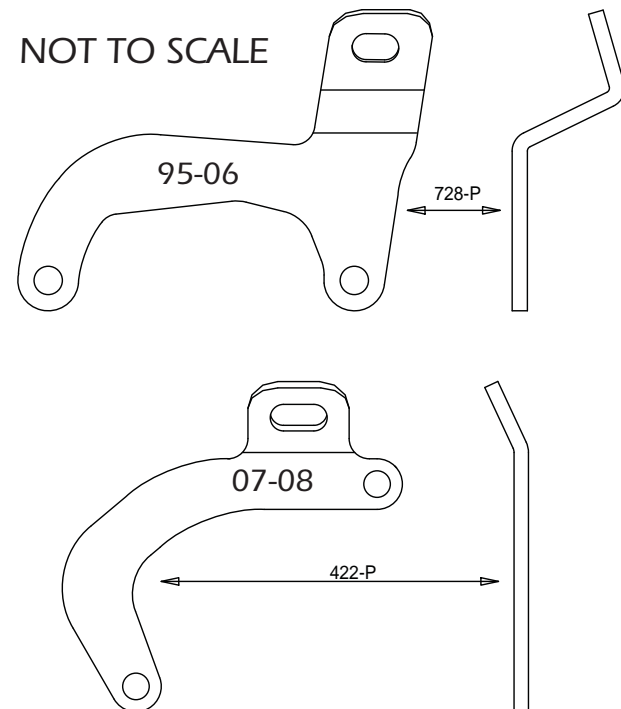
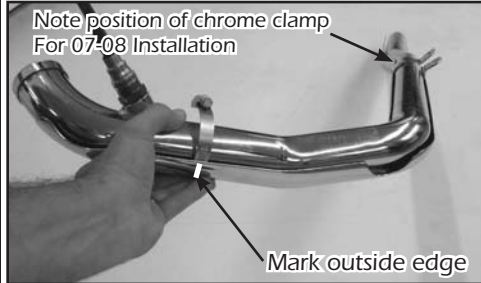

FIGURE 4
FIGURE 5
Late Models 07-08: Slide the chrome clamp (supplied) onto the front head pipe (D450FC) (supplied) so it sits near its installed position (Figure 4 & 5).
5. Lay the rear head pipe (D451FC) into the heat shield and install each hose clamp by feeding tail end of clamps into heat shield clips. (Figure 4) Take note of location of clamp screw head direction (Figure 5) (screw head must be accessible when system is installed for adjustment purposes).